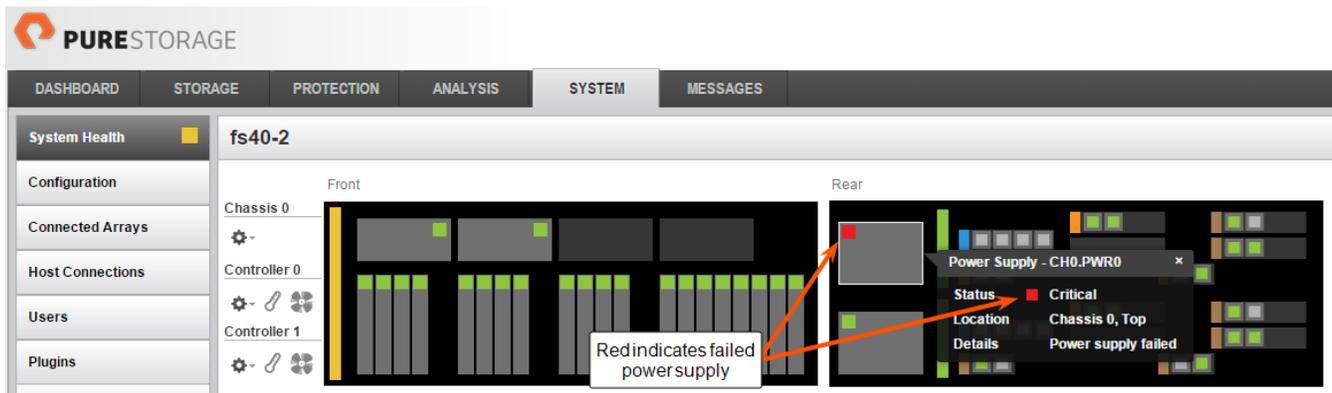

Figure 1-1. GUI Indication of Power Supply Failure
- Use the Purity GUI. Select **System > System Health**. A red rectangle in the upper left corner of a power supply icon indicates a failure (see Figure 1-1).